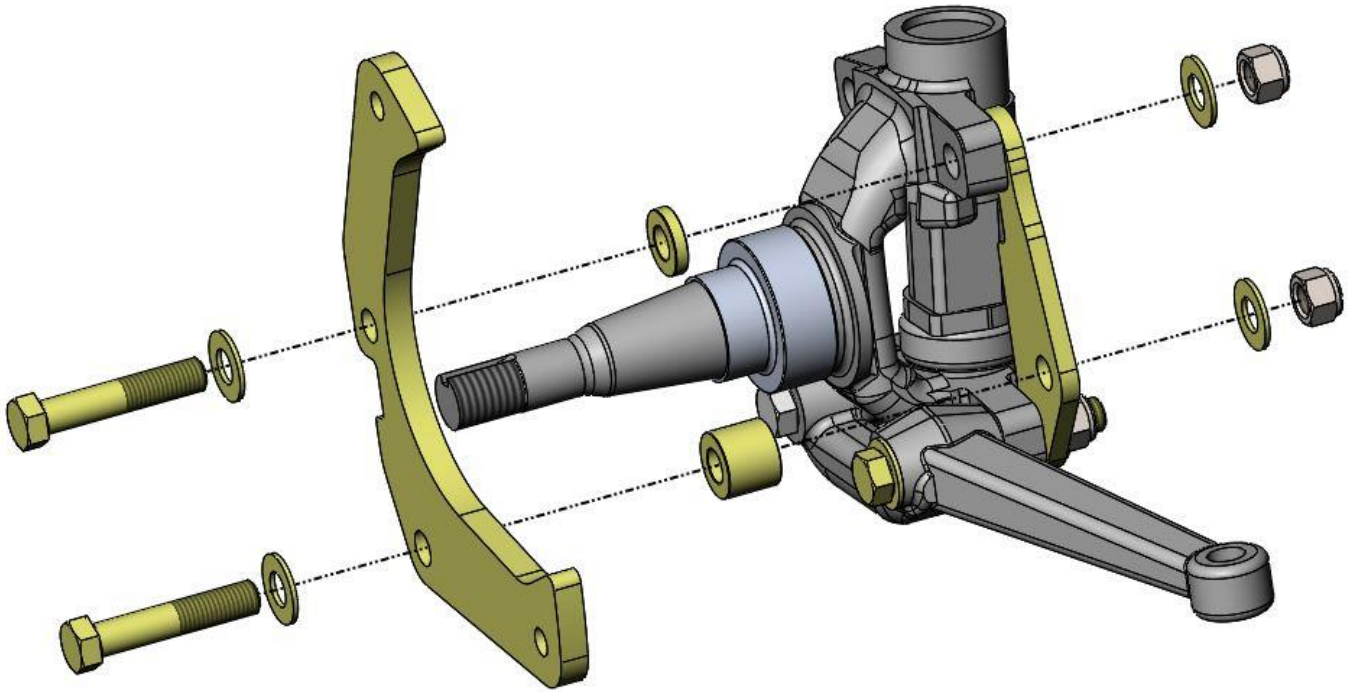

Figure 3 – Primary Caliper Mounting Bracket Installed (Driver Side Shown)
7. Using a Thin Spacer Bushing, place it against the spindle followed by the Primary Caliper Mounting Bracket. Insert a 7/16"-20 x 2-1/2" Grade 8 Hex Head Bolt and Flatwasher through the brackets and bushing. Next, place a Thick Spacer Bushing between the Primary Caliper Mounting Bracket and Secondary Caliper Mounting Bracket, and insert a 7/16"-20 x 2-1/2" Grade 8 Hex Head Bolt and Flatwasher through both brackets and the Thick Spacer Bushing. Install the provided 7/16"-20 Nyloc Lock Nut and Flatwasher. Figure 3 on the next page shows the bracket installation.